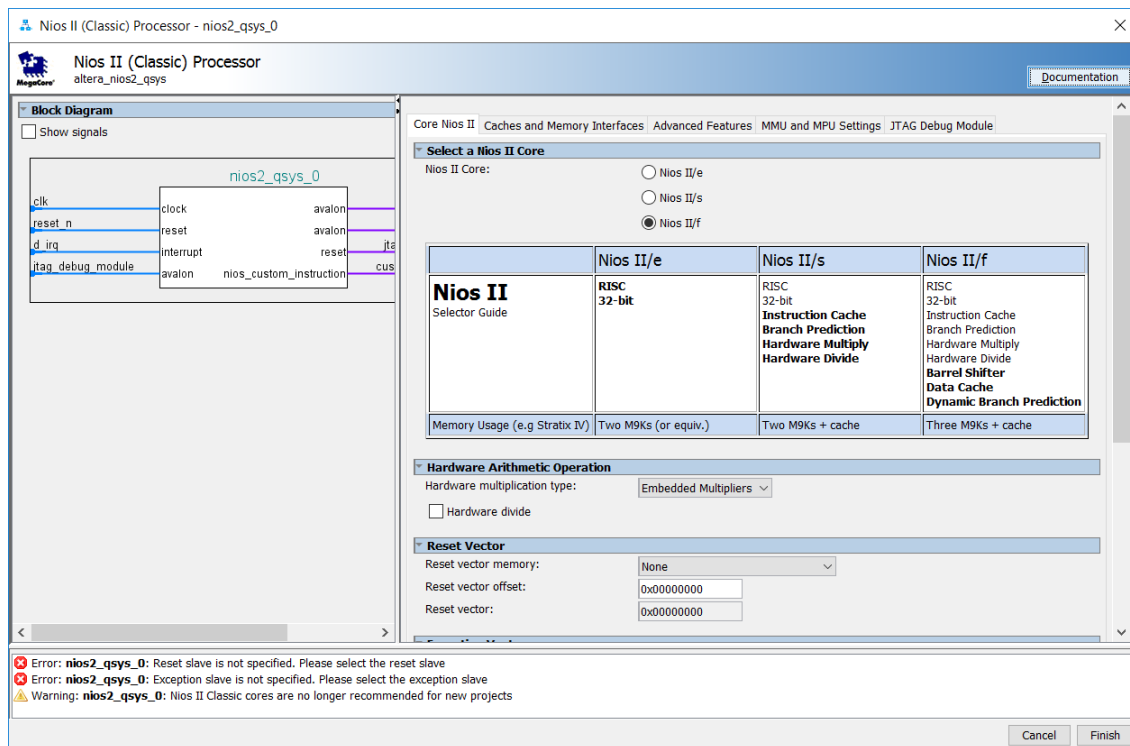

Figure 5. Create a Nios II processor.
- On the left side of the Platform Designer window expand Processors and Peripherals, select Embedded Processors > Nios II (Classic) Processor and click Add..., which leads to the window in Figure 5.